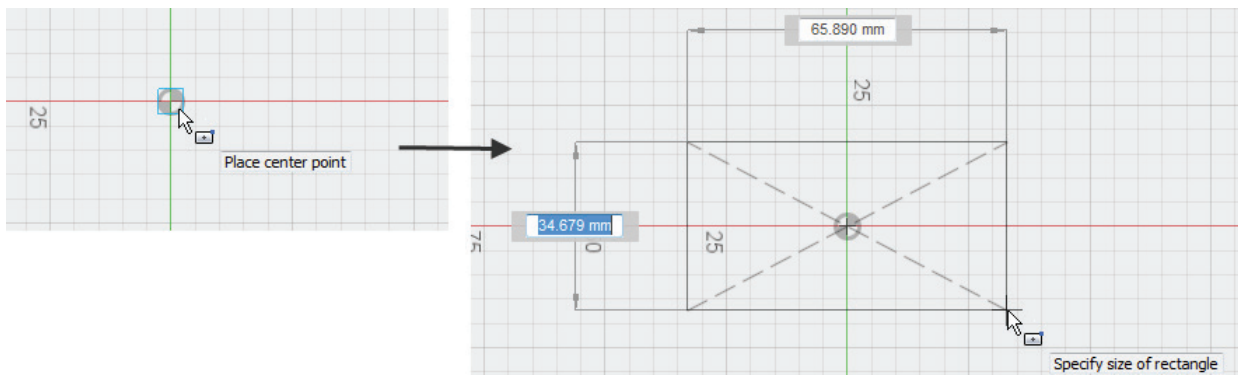

Figure-10. Creation of center rectangle
- Click on the canvas to specify the center point of the rectangle; refer to Figure-10.